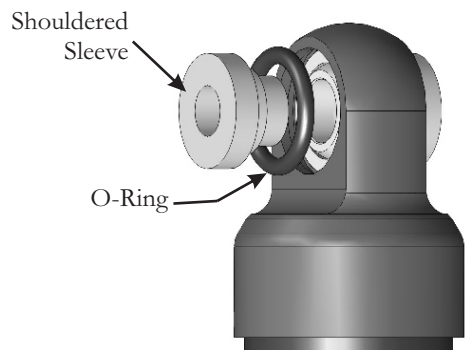

Figure 6
4. Shouldered sleeves with O-rings should already be installed in the upper eye of your new 435 shock. If not, insert sleeves with O-rings into the shock eye (figure 6).